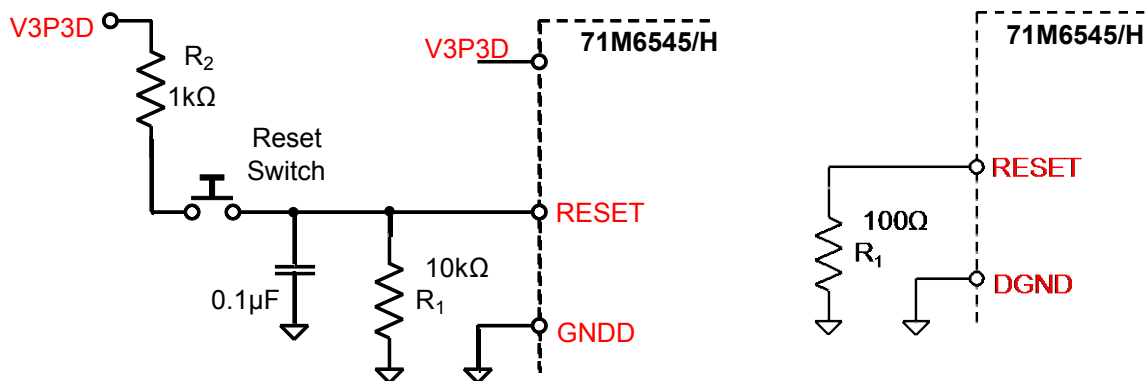

Figure 31: External Components for the RESET Pin: Push-Button (Left), Production Circuit (Right)
Even though a functional meter does not necessarily need a reset switch, it is useful to have a reset pushbutton for prototyping as shown in Figure 31, left side. The RESET signal may be sourced from V3P3SYS.
- ✓ For a production meter, the RESET pin should be protected by the external components shown in Figure 31, right side. R1 should be in the range of 100 Ω and mounted as closely as possible to the IC. Since the 71M6545/H generates its own power-on reset, a reset button or circuitry, as shown in Figure 31, is only required for test units and prototypes.